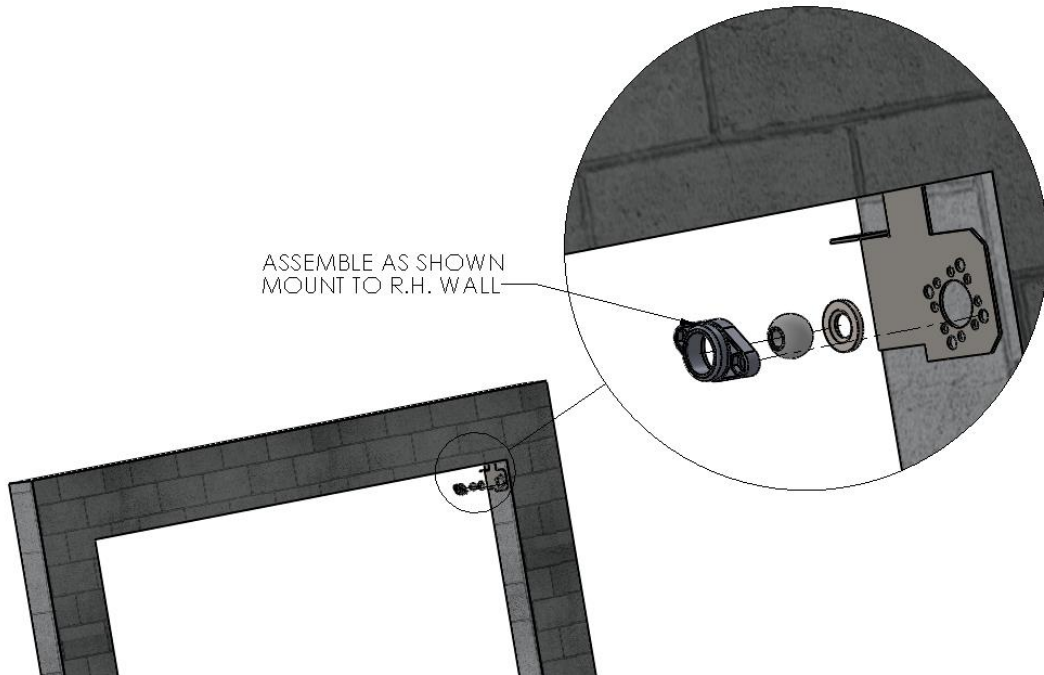

Figure 2 INSTALL R.H. HEADER BRACKET AND IDLER ASSEMBLY
2. Insert your Wall Mounting Hardware through Idler Bearing assembly (3 pieces), and through the R.H. Header Mounting Bracket, into the Mounting Surface. (Figure 2 INSTALL R.H. HEADER BRACKET AND IDLER ASSEMBLY)